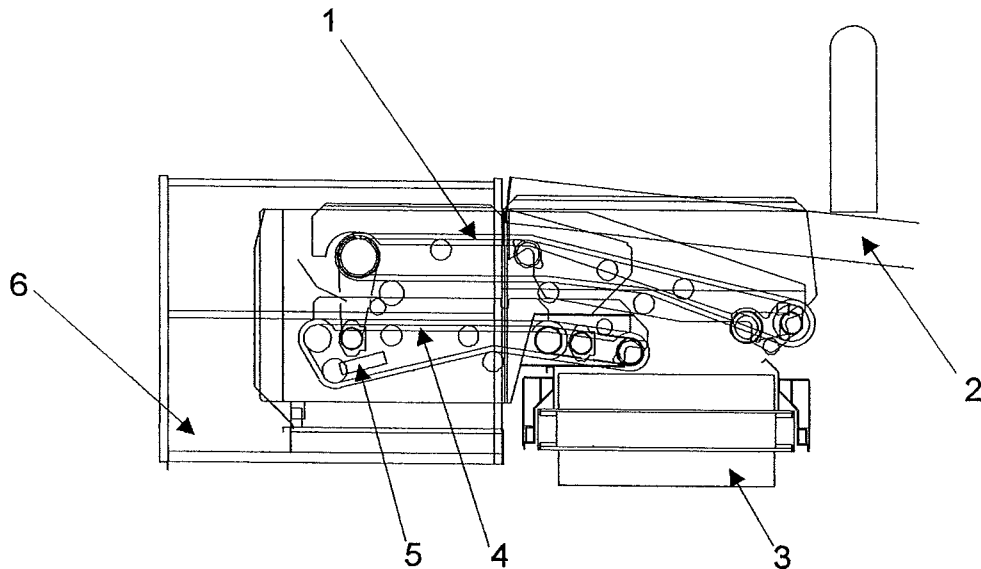

Fig 10.19
A picking off belt, (Fig 10.19), capable of carrying 4 pickers. Comprising of a top belt from which the pickers sort through the crop, and a lower belt which returns the crop to the cart elevator. The unit is hydraulically driven and can be controlled for speed by a flow control valve. A small electrical control box gives emergency stop facility, communication to the driver and speed control (see section 4. for explanation of these controls). The box has a magnetic foot and can be mounted in a convenient position to the pickers.
Adjustment of the top picking off web is by adjusting the rear rollers of the web, and for the return web by the web adjusters on each side of the table (item 4 Fig 10.19). By removing the guards, web adjusters on each side of the table can be reached. Ensure that the webs are tensioned evenly on both sides of the table so that the webs run correctly.